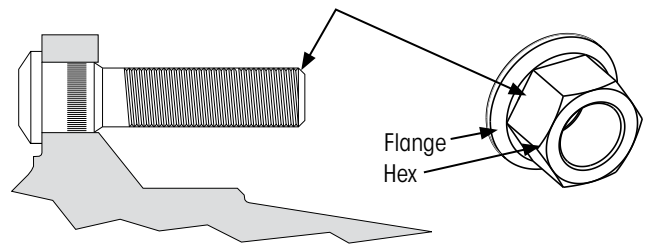

Figure 26: Lubricating stud and two-piece flange nut
- C. **Apply** two drops at the point between the flange and hex of the nut (Figure 26).